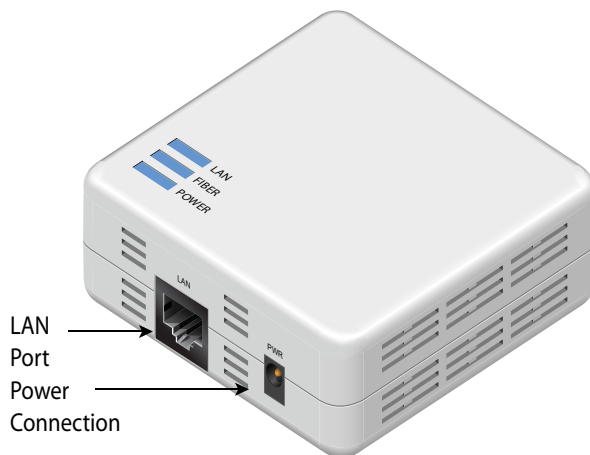

Figure 1. Micro ONT
Figure 1 illustrates the Micro ONT.
3. Refer to Figure 1 and Insert the CAT 6 rated cable in the LAN Port.